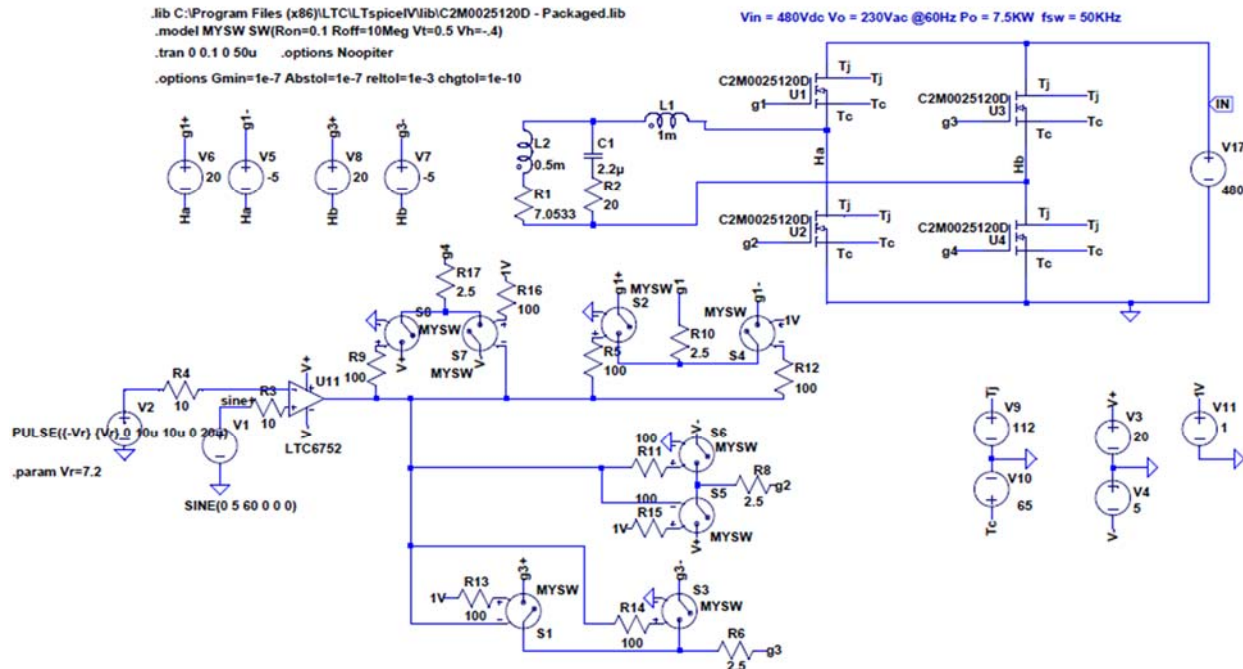

Figure 1: 1phase 2 level Bipolar 7.5KW inverter model circuit
3. The model will be similar to the one shown in figure 1.